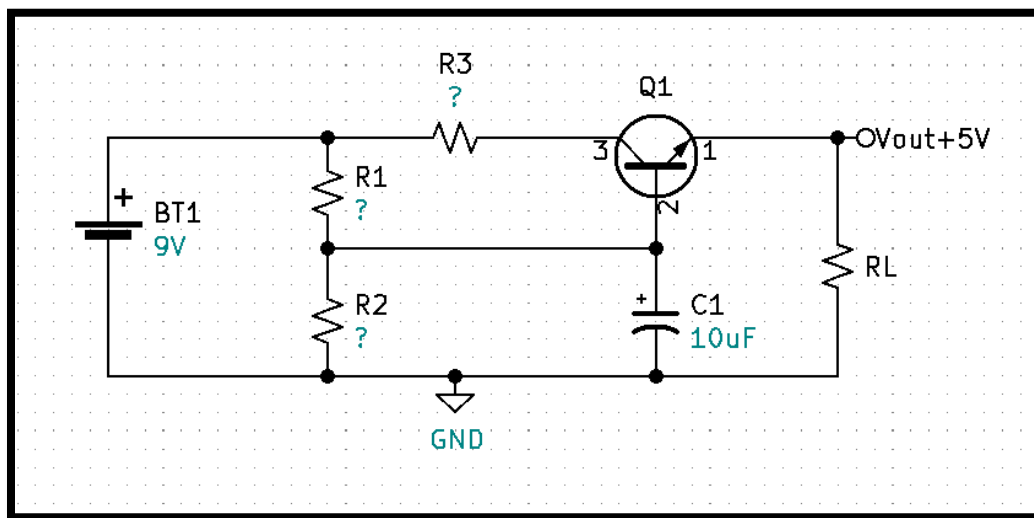

Figure 6-1 5V regulator using a 9V source
**First Challenge:** Calculate and find the resistor values for the circuit in Figure 6-1 to produce a regulated 5V output with a max current of 5mA, assume Q1 is a 2N3904 with a minimum beta of 90.